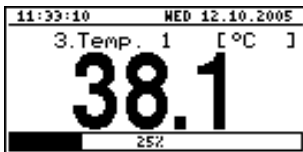

Fig. 6.6. "**Single channel**" mode
- "**Single channel**" mode (Fig. 6.6) enables the last measurement for one of the measurement channels to be viewed in the numeric and graphic form (bar).